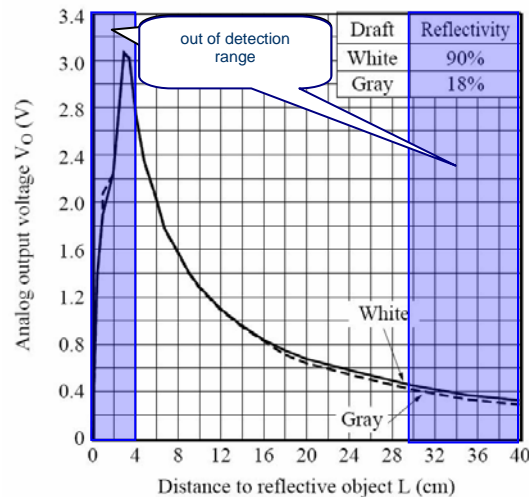

Figure 3: GPD120 Analog Voltage versus detection distance
- i. Read the documentation on linearizing the Sharp GPD120 Infrared Sensor Data (Linearizing Sharp Range Data). In this section, you will determine a method to linearize the relationship between sensor detection distance and output voltage (see Figure 3).